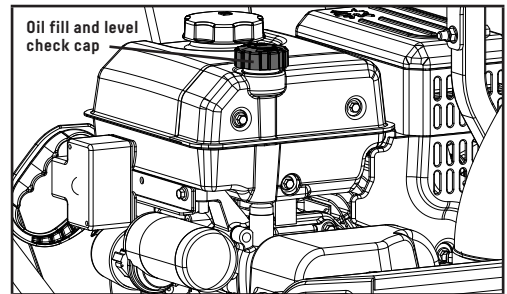

Figure 17A
2. Remove the oil cap/dipstick and wipe it clean (Fig. 17A).